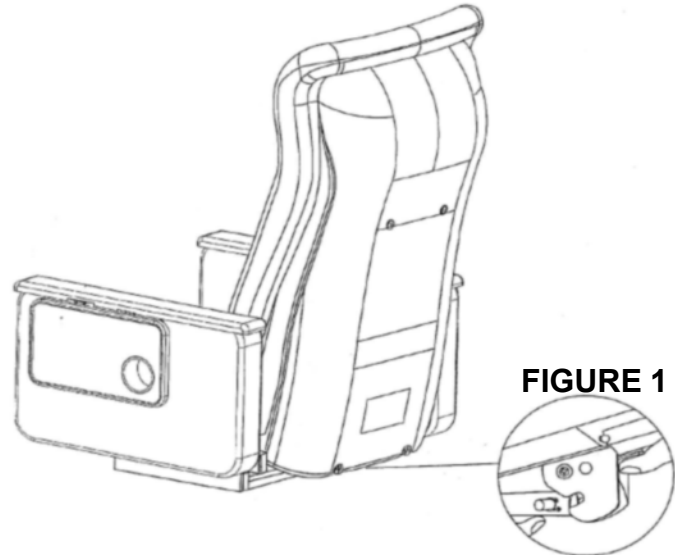

FIGURE 1
**Step #2)** Once the chair back is in an upright position, locate the latch at the bottom of the back. (See Figure 1) This latch connects the chair back to the seat base. Located under the seat base is an actuator with a short, steel connecting pin. (See Figure 2) In order to engage this pin and latch, this pin **MUST** remain in a perfectly horizontal position. (See Figure 2 once again) This is very important as it will be impossible to engage the latch and pin if the pin is not in a horizontal position. Gently move the chair back until the pin engages into the latch. Since the latch utilizes a spring, you will hear a click when they are properly connected.